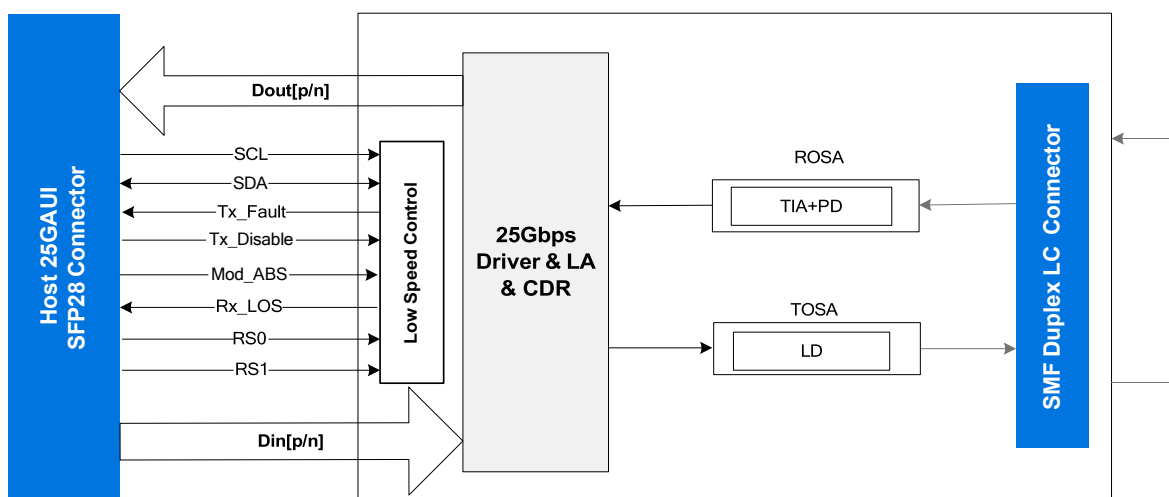

Figure 1: Transceiver Block Diagram
As show in Figure 1, the optical transmitter portion of the transceiver incorporates a 25GAUI electrical input with Equalization (EQ) block, DFB laser driver, diagnostic monitors, control and bias for the modulator. The QD1310-SFP-LC.S10 transmitter section uses a wavelength of 1310nm uncooled DFB laser.
As show in Figure 1, the optical receiver portion of the transceiver incorporates the PD photodiode, trans-impedance amplifiers (TIA) and 25GAUI compliant electrical output blocks. The Rx Output Buffer provides 25GAUI compliant differential outputs for the high speed electrical interface.